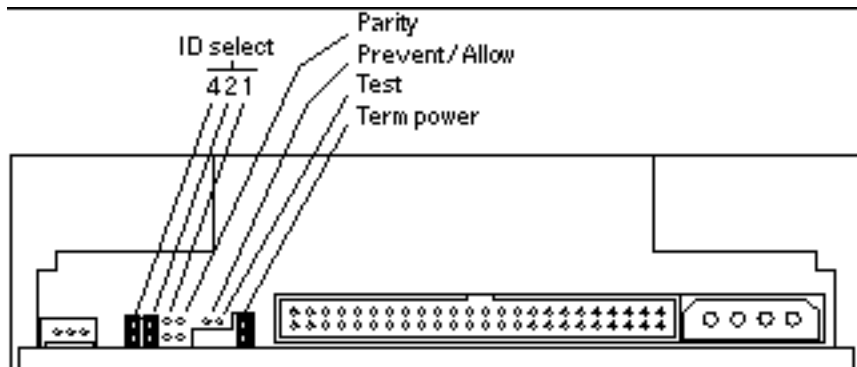

Figure 9-5 Jumper Settings for the CD-ROM Drive
2. Make sure that the jumper settings on the replacement drive match those shown in Figure 9-5.